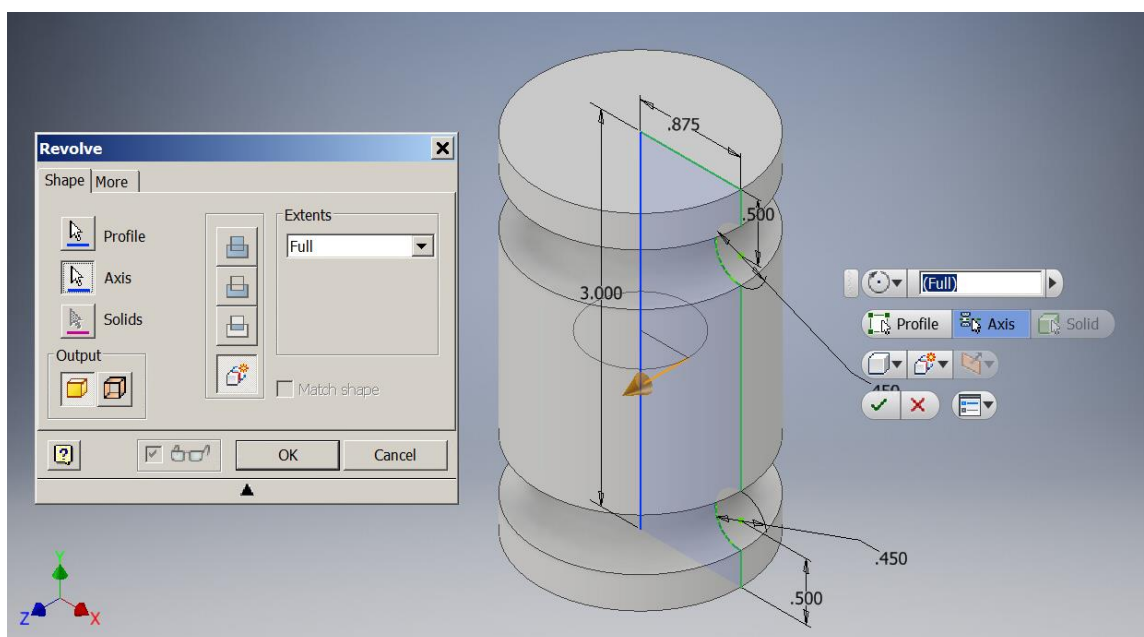

Figure 15 – Revolved Mallet Head
- The Profile should automatically be selected, and you will select the left edge of the shape as the Axis around which to Revolve the profile. See Figure 15.